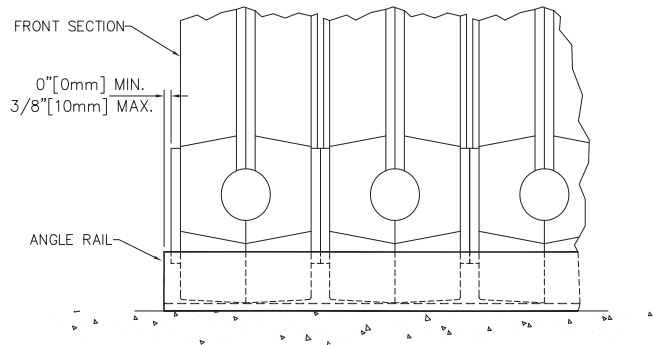

Figure 2.1: Front Section Placement
4. Place the Front Section in position on the angles as shown in Figure 2.1. The end of the floor angle must either be flush with the boss for the wash out connection or extend beyond it by as much as 3/8" (10 mm).